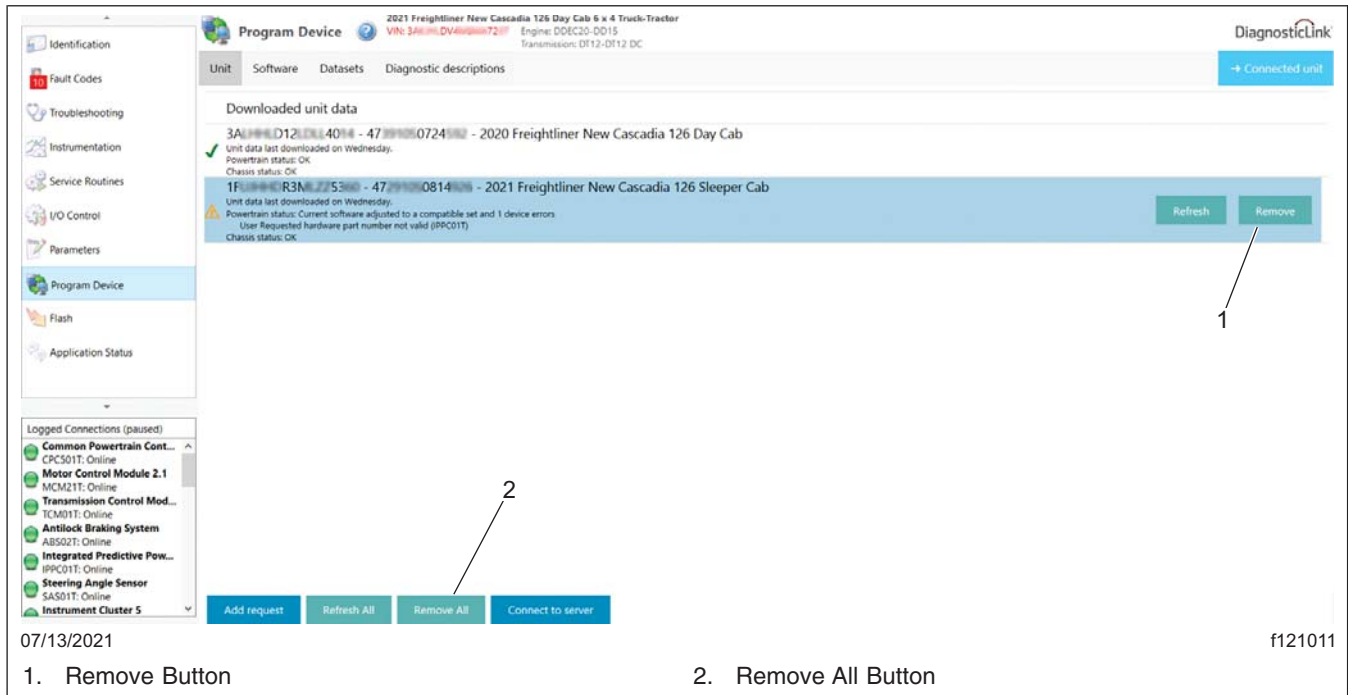

Fig. 4, Removing VINs
- Go to 'Program Device,' and make sure that the vehicle identification number (VIN) that appears is correct. If not, remove each VIN by selecting the 'Remove' button located at the far right-hand side of that VIN. To remove all the VINs at once, select the 'Remove All' button at the bottom of the screen. See Fig. 4.